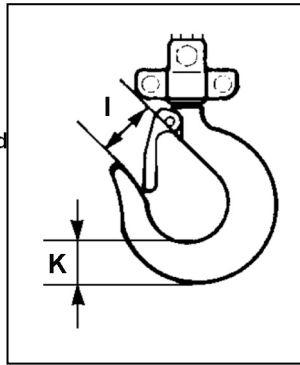

Fig. 6
- The chain must not be kinked or twisted. With 2-fall lever hoists (6 t), there is a risk of the chain twisting if the bottom hook assembly ends up looped through the chain sling – usually during refitting or moving the hoist between work stations. See Fig 6.